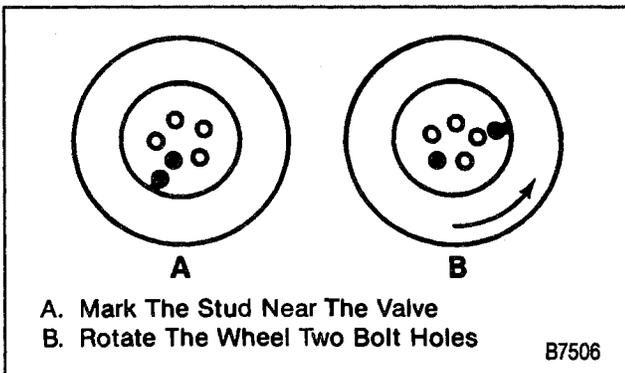

Figure 13—Tire and Wheel Assembly to Hub/Rotor Vectoring
1. Mark the wheel hub bolt nearest the valve stem for reference (Figure 13).
2. Rotate the tire assembly two wheel hub bolts and recheck the runout (Figure 13).